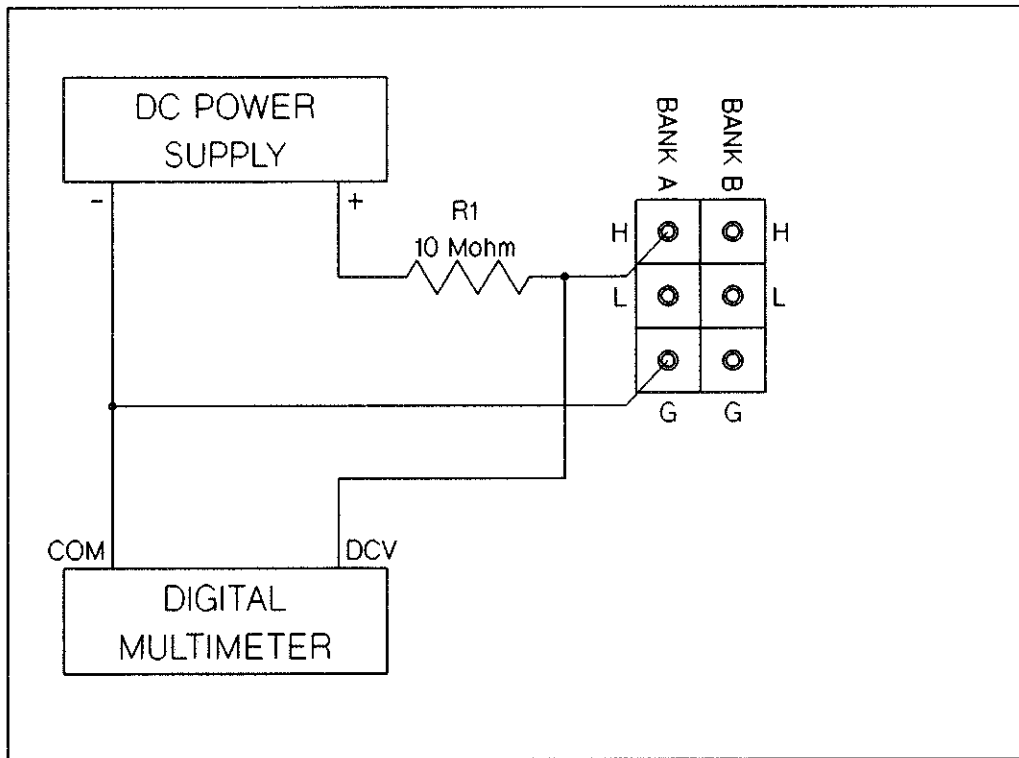

Figure 8-23 HP 44705A/H Bank A HIGH to GUARD DC Isolation
40. Connect the test circuit between the Bank A common HIGH test point and the Bank A common GUARD test point on the test fixture as shown in Figure 8-23.